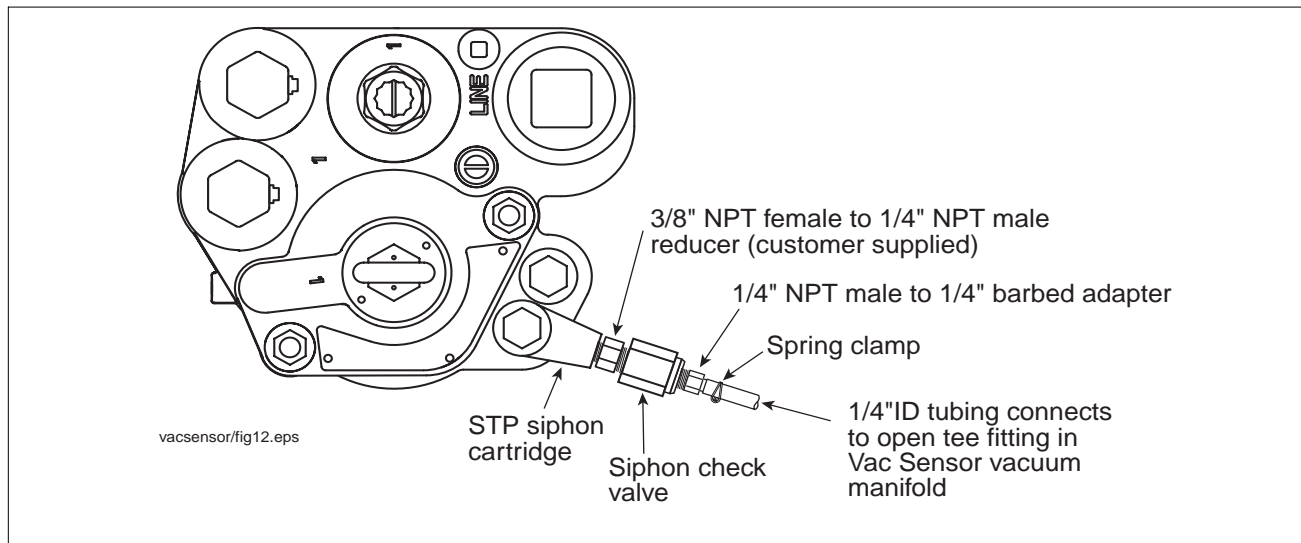

Figure 12. Attaching 1/4" tubing to STP siphon cartridge
6. Measure a length of 1/4" ID tubing to connect the VAC TEST port (ref. Figure 12) on the Vac Sensor labeled 'T' to the tank's interstitial 3-way ball valve. Plan enough tubing to avoid sharp bends in it or stretching it. Cut and install this tubing and secure tubing ends with spring clamps.
1. Get the 1/4" NPT barbed fitting from the mounting kit. Apply sealant to the threads of the fitting and screw it into the STP siphon port (see Figure 12).